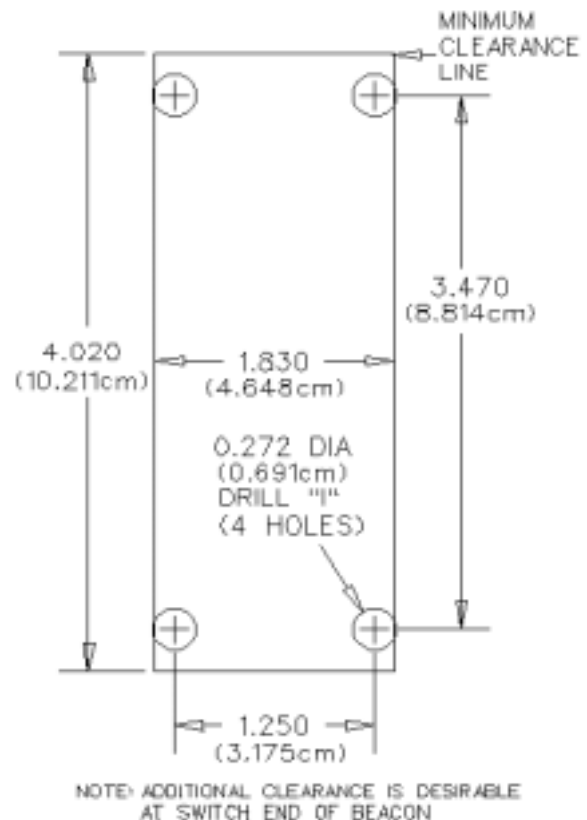

Figure 5. Mounting Hole Template for N30A21A Mounting Kit
A. Lay out four holes as shown in Figure 5. Position mounting kit carefully to avoid interference with other structures. Observe the clearances required as shown in Figures 5 and 6, and in established tool and maintenance clearances.
B. Drill the four 0.272 inch (0.691 cm) ("T" drill) holes in the mounting surface as shown in Figure 5